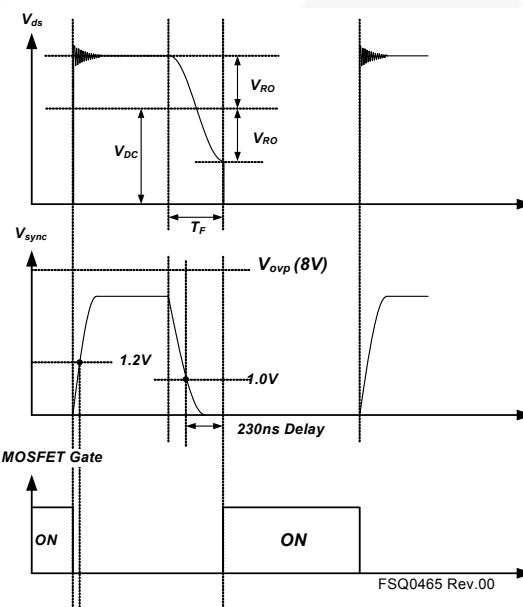
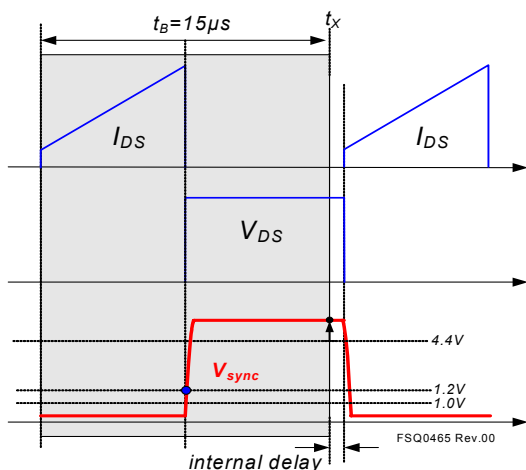

Figure 24. Quasi-Resonant Switching Waveforms
Figure 25. $V_{sync} > 4.4V$ at t_X
3. Synchronization: The FSQ-series employs a quasi-resonant switching technique to minimize the switching noise and loss. The basic waveforms of the quasi-resonant converter are shown in Figure 25. To minimize the MOSFET's switching loss, the MOSFET should be turned on when the drain voltage reaches its minimum value, which is indirectly detected by monitoring the V_{CC} winding voltage, as shown in Figure 24.
The switching frequency is the combination of blank time (t_B) and detection time window (t_W). In case of a heavy load, the sync voltage remains flat after t_B and waits for valley detection during t_W . This leads to a low switching frequency not suitable for heavy loads. To correct this drawback, additional timing is used. The timing conditions are described in Figures 25, 26, and 27. When the V_{sync} remains flat higher than 4.4V at the end of t_B which is instant t_X , the next switching cycle starts after internal delay time from t_X . In the second case, the next switching occurs on the valley when the V_{sync} goes below 4.4V within t_B . Once V_{sync} detects the first valley in t_B , the other switching cycle follows classical QRC operation.